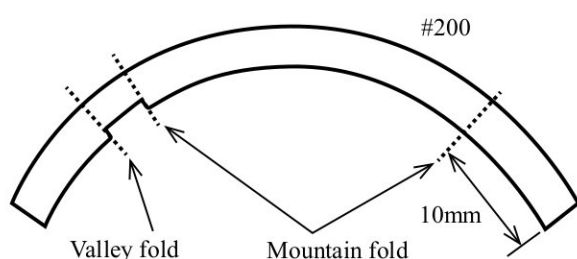

Fig.1
- Attach the main PCB as shown in Fig.1 and Fig.2, and fix them with the screw (#133), 5 screws (#173) and 2 screws (#174).